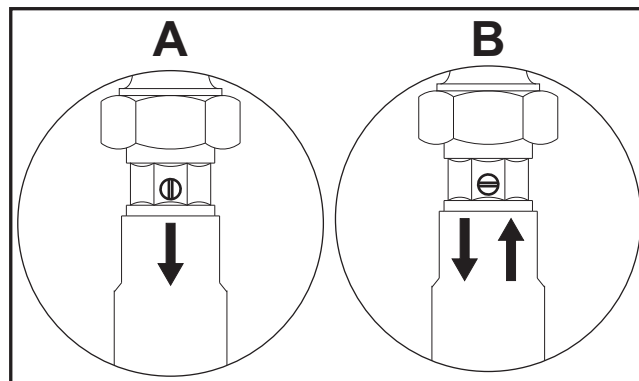
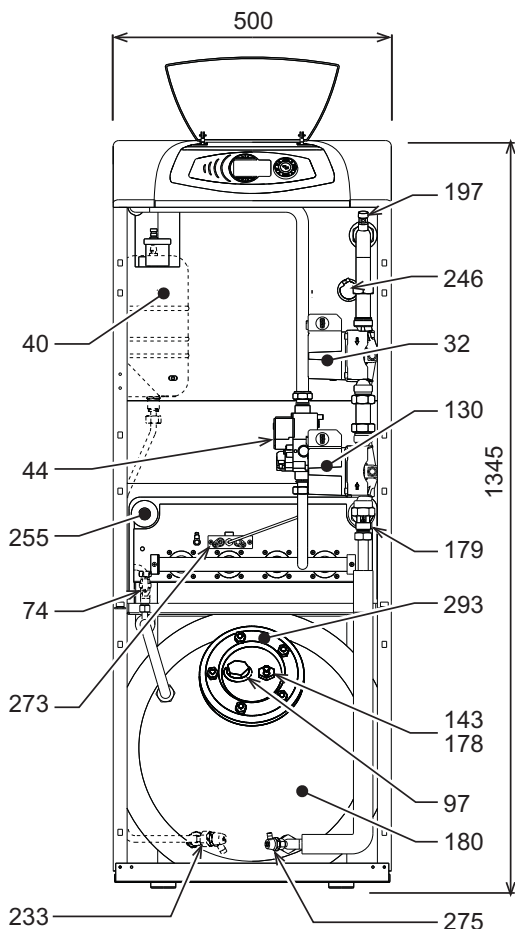

fig. 21
fig. 24 - Dimensions and main components
- To drain the hot water tank, use the drain cock 233 of fig. 24 after closing the valves for filling from the water mains; use a hot water drawing point (washbasin, shower, etc.) as a vent.
- To drain the heating system completely, use the cock 275 of fig. 24 after releasing the shutters of the two non-return valves detail 179 of fig. 24 (also see fig. 21). Use the radiator valves as vents.
- To drain just the water contained in the boiler, close the shutoff valves and fully open the cock (255 - fig. 24). Then release the shutters of the non-return valves (179 - fig. 24). Lastly, open the cock 197 of fig. 24).
-  Before filling the system again, remember to close the drain cock and radiator vent valves and lock the shutters of the non-return valves 179 of fig. 24.